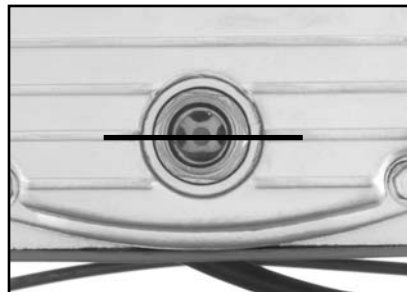

Figure 3. Proper oil level.
3. **ADD OIL TO THE CRANKCASE.** Oil has been supplied with your air compressor. Remove the oil breather on top of the crankcase and add oil into the hole. The oil level should be in the center of the sight gauge shown in **Figure 3**.